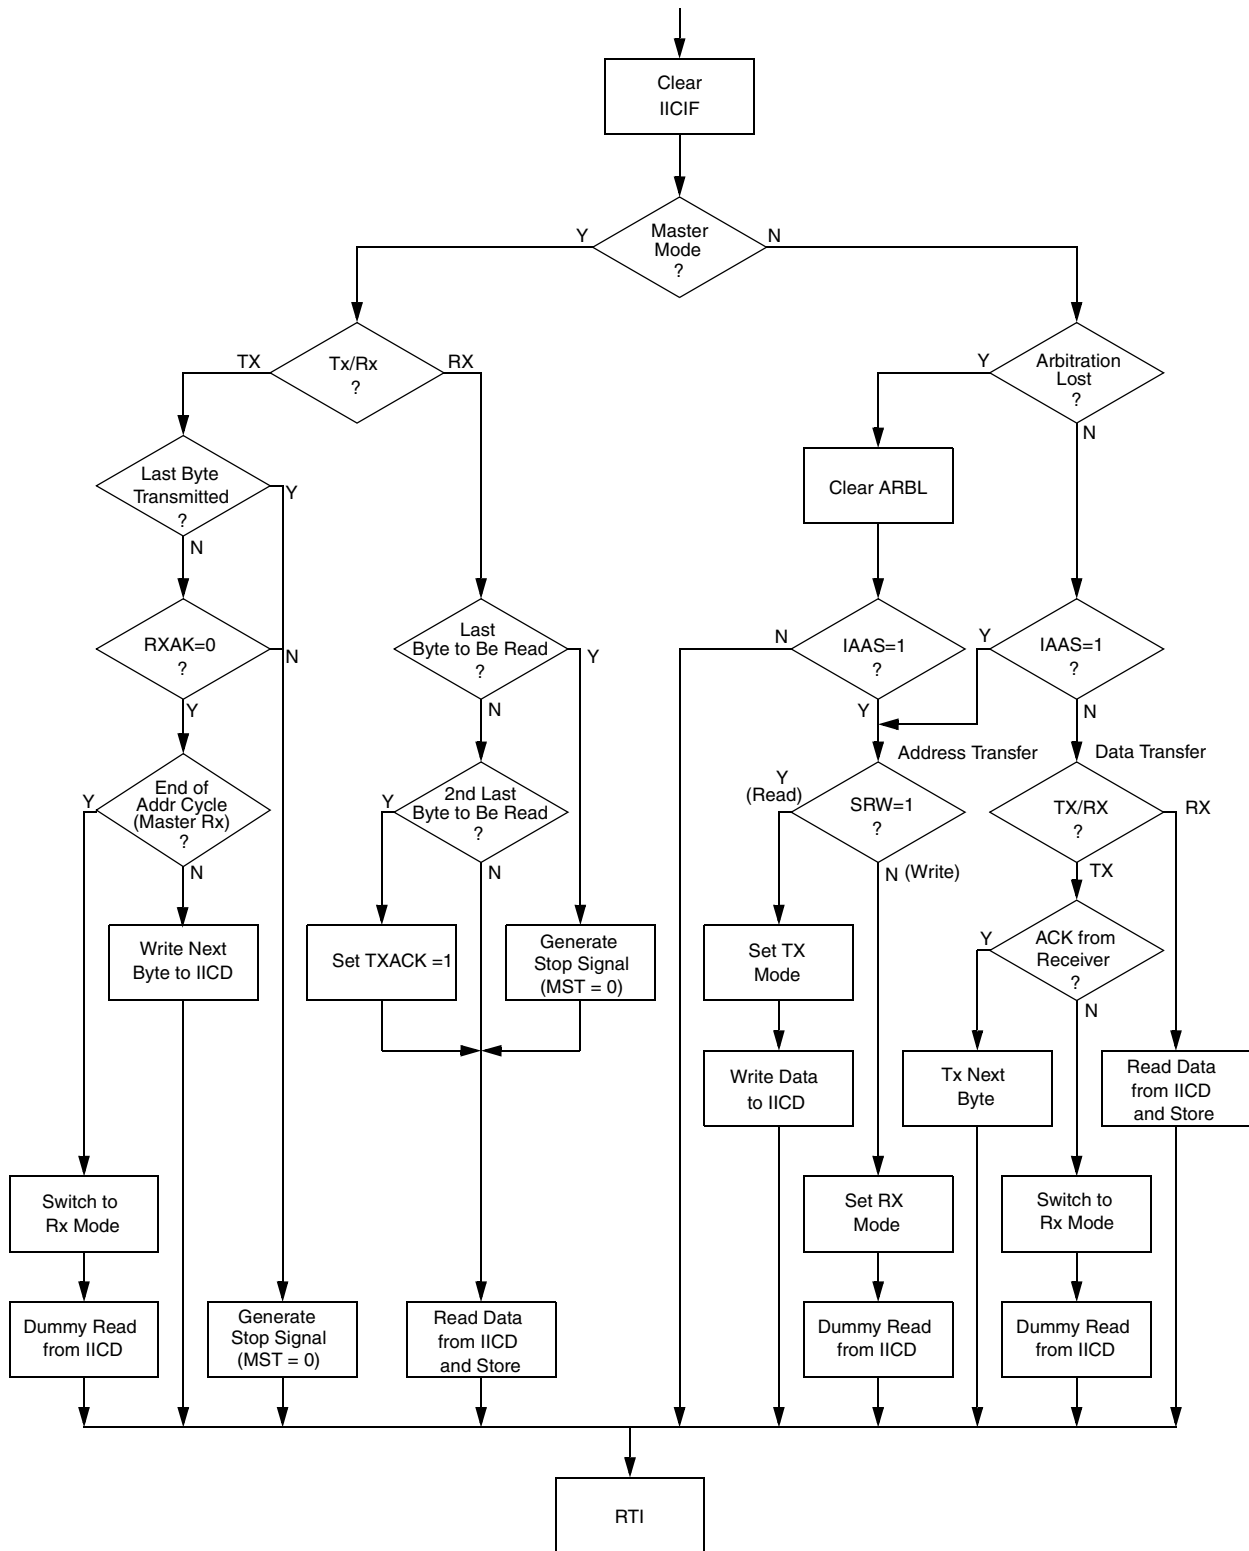

Figure 11-11. Typical IIC Interrupt Routine
4. Initialize RAM variables used to achieve the routine shown in Figure 11-11
The routine shown in Figure 11-11 can handle both master and slave IIC operations. For slave operation, an incoming IIC message that contains the proper address will begin IIC communication. For master operation, communication must be initiated by writing to the IICD register.